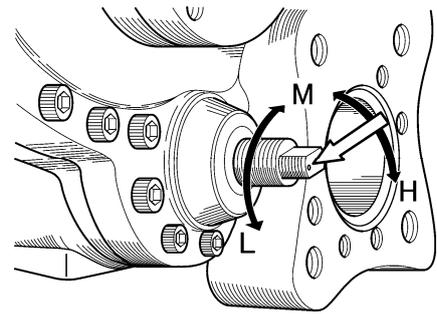

Figure 4-1 Vi Adjusting Rod
- g) Check the inscribed mark (small black point indicated by the white arrow in Figure 4-1) on the Vi adjusting rod, which should be used as a reference point when counting the number of turns of the rod.